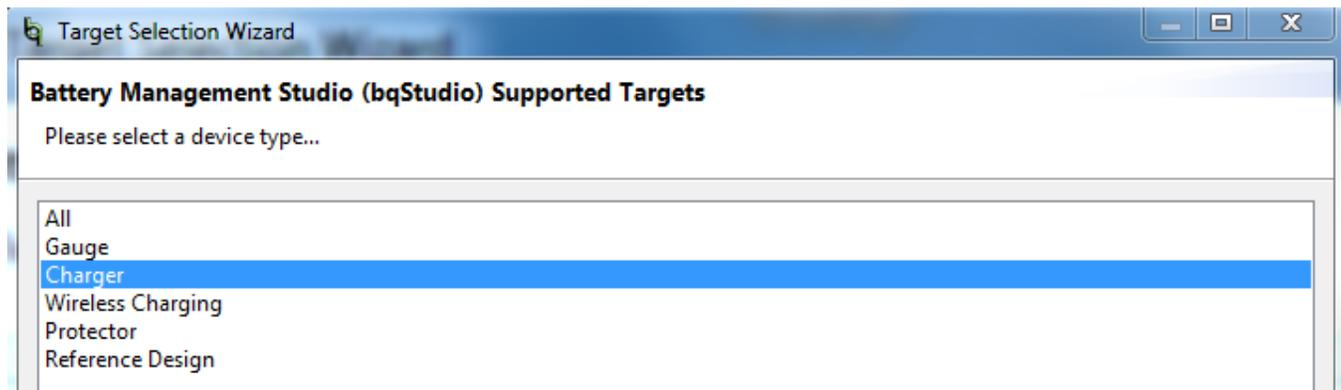

Figure 3. Select “Charger” in bqStudio Window
5. Turn on the computer. Launch *Battery Management Studio* (bqStudio). Select *Charger* and bq25970 evaluation software. The main window of the software is shown in Figure 3.